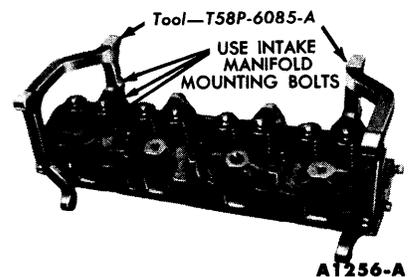

FIG. 26—Cylinder Head Holding Fixtures
3. Remove the cylinder head bolts. Install the cylinder head holding fixtures (Fig. 26).
1. Install the cylinder head holding fixtures (Fig. 26). Remove the deposits from the cylinder head combustion chambers and valve heads with a scraper and a wire brush before removing the valves. **Be careful not to scratch the cylinder head gasket surface.**